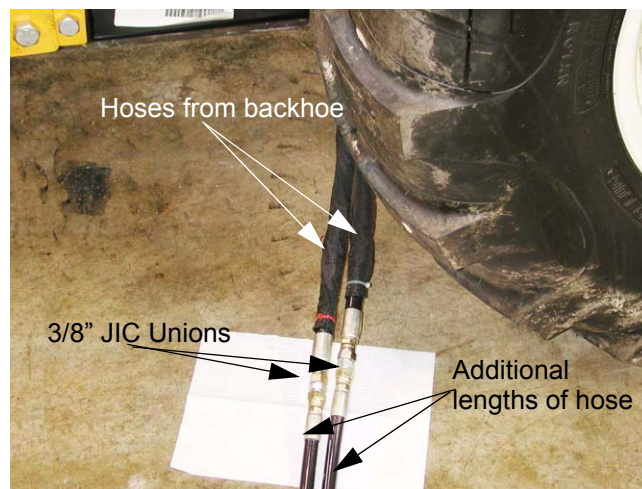

Figure 1.40
- 1.40. Connect the hoses on the backhoe to the two separate lengths of hose that came with it, keeping track of which hose is which. Connect the hoses using two 3/8" JIC unions. See Figure 1.40.